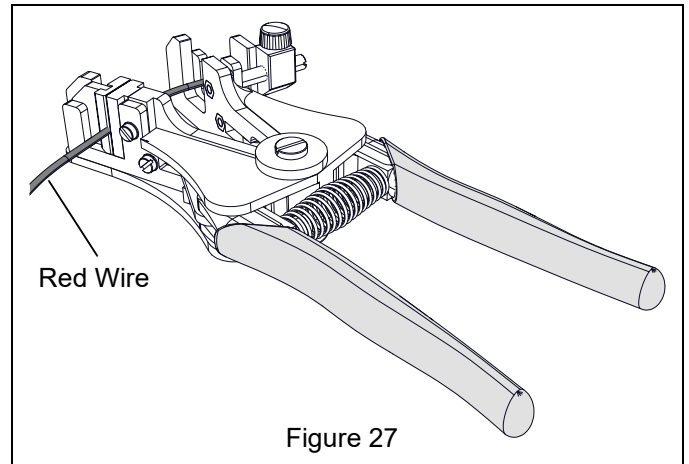

Figure 27
13. Strip approximately 13 mm (1/2") wire coating from red wire. See Figure 27.